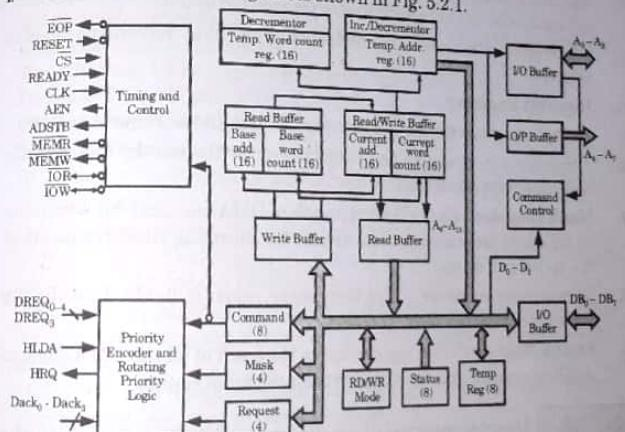

Fig. 5.2.1. Block diagram of 8237.
- i. The internal block diagram is shown in Fig. 5.2.1